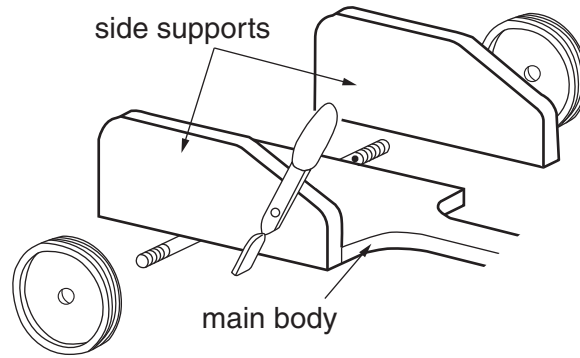

Fig. 9
- (f) Fig. 9 shows the main body and the side supports that make up the seat of the go-kart.